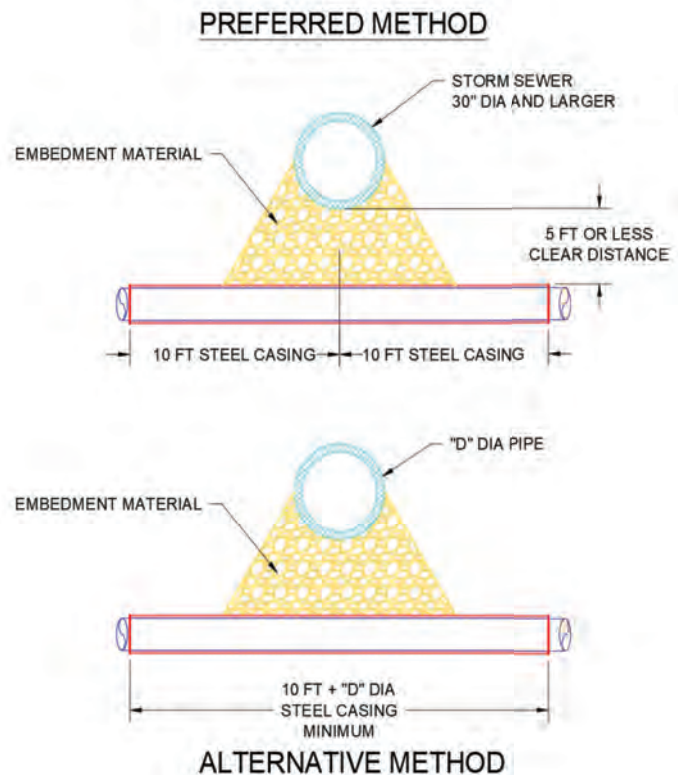

Figure 21- Large Mains Crossing
- 4.10. All public wastewater mains that cross under storm sewer mains thirty (30) inch and larger, must be steel encased a minimum of twenty (20) feet centered under the storm sewer if the vertical distance between the storm drain and public wastewater main is less than five (5) feet. Embedment material or “Type-A” stone backfill is required under the crossing pipe and above the casing of the public wastewater main. If the horizontal alignment is such that twenty (20) feet of steel casing cannot be maintained, a minimum length of five (5) feet past the diameter of the storm pipe on each side of the pipe is required. These crossing requirements must be indicated and labeled on all design drawings submitted for review and approval. See Figure 21.